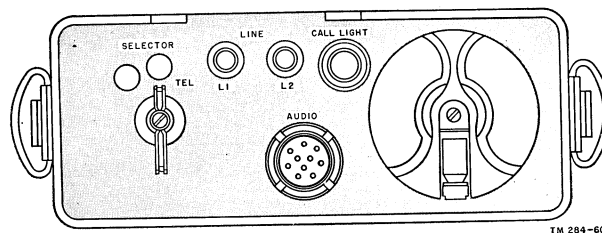

Figure 23. Remote control C-433/GRC, controls.
- (2) At the remote control unit (fig. 23), set the SELECTOR switch at the TEL position.
- (3) Press the push-to-talk button on the handset (at either the local or remote position) and talk into the microphone. Release to listen.